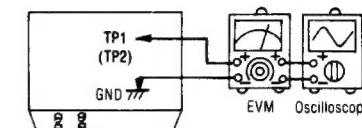

Fig. 6
• The serial number plate of this product is attached to the back chassis (shown in fig. 6).
1. Test equipment connection is shown in Fig. 6.